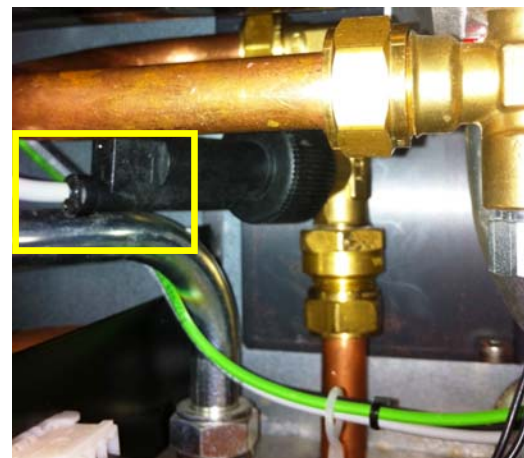

Figure 5
4. Verify that the end of the flow switch (Figure 5) where the gray electrical connection begins is not in contact with the gas line. If the flow switch is in contact with the gas line rotate the brass fitting so that the flow switch no longer contacts the gas line.